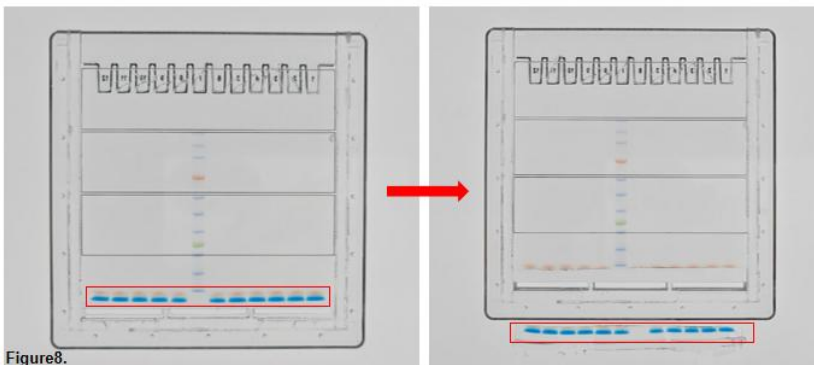

Figure8.
⑤ After opening, the gel may remain on either side of the cassette. Remove and discard the empty plate. Trim off the protruding gel at the lower edge (Figure 8). Submerge the gel-bearing plate in water, tilt gently, and lift so the gel releases into the water. Retrieve the gel for staining or subsequent experiments.